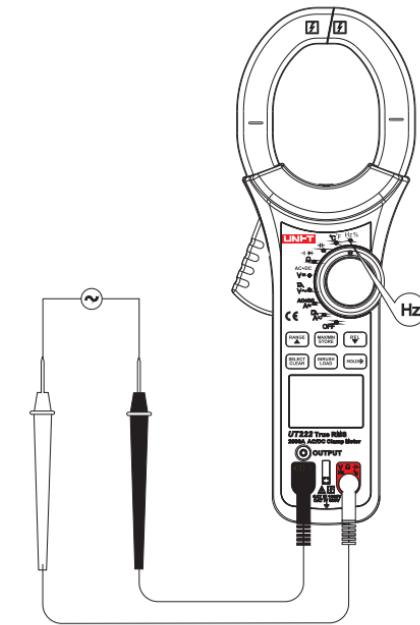

Figure 10
## 7. Frequency/duty ratio measurement (See Figure 10)
- Current measurement must be operated within  $0^{\circ}\text{C} \sim 40^{\circ}\text{C}$ , if positive reading is achieved after measuring DC current, the current direction will be from up to down (See Figure 10: the upward is panel and base cap is downward). Do not loosen trigger abruptly, since Hall component is sensitive in some extent to magnet, heat and mechanical stress, but also to the impact, which may cause short-time reading variation.
- Current measurement must be operated within  $0^\circ\text{C} \sim 40^\circ\text{C}$ , if positive reading is achieved after measuring DC current, the current direction will be from up to down (See Figure 10: the upward is panel and base cap is downward). Do not loosen trigger abruptly, since Hall component is sensitive in some extent to magnet, heat and mechanical stress, but also to the impact, which may cause short-time reading variation.
- Current measurement must be operated within 0°C~40°C, if positive reading is achieve after measuring DC current, the current direction will be from up to down (See Figure 10: the upward is panel and base cap is downward). Do not loosen trigger abruptly, since Hall component is sensitive in some extent to magnet, heat and mechanical stress, but also to the impact, which may cause short-time reading variation.